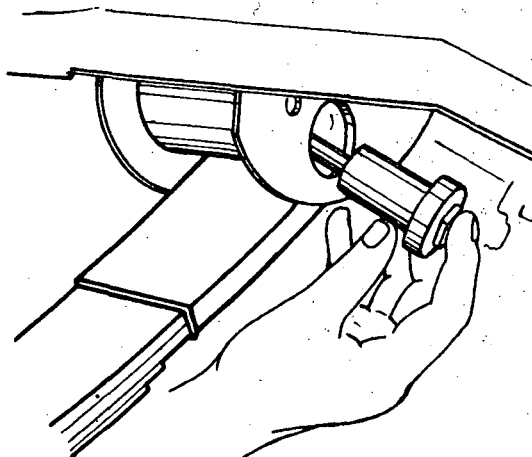

Fig. 1
- a) Place the spring unit in its front hanger with its bolt (fig. 1).